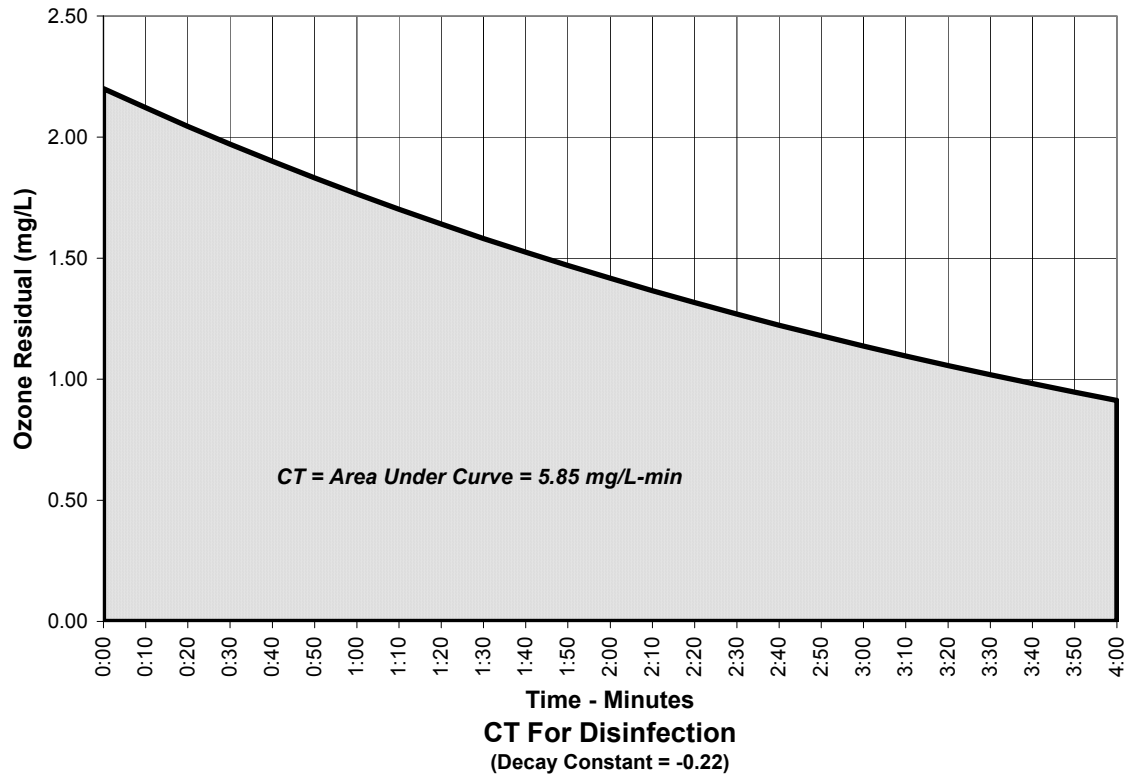

Figure 4.1 CT for Disinfection
Fill in the missing numbers in the above table by using the graph in Figure 4.1 on the next page.
- Plotting the results on a graph will give the curve shown in Figure 4.1.
- The CT, 5.85 mg/L-min in this case, is represented by the area under the curve in Figure 4.1.